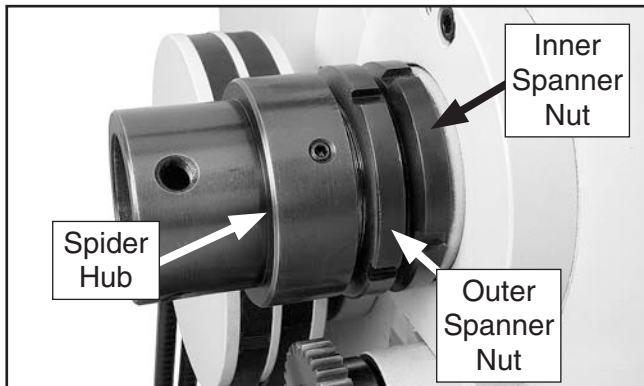

Figure 107. Spindle spanner nuts.
- Place the chuck wrench in the cam-lock socket to keep the spindle from rotating, and loosen the outer spanner nut (see **Figure 107**) two turns. Removing the spider hub is not necessary.